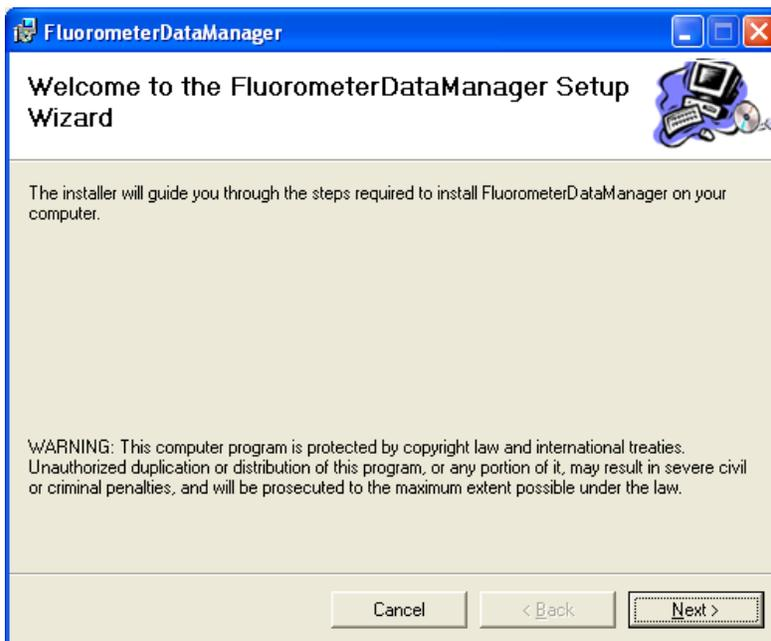

Figure 15. Install Handheld Fluorometer Data Manager
- c. Double click "Setup.exe" in the installation package and follow the instructions displayed during the installation to install "FluorometerDataManager.exe" on the host computer, as shown in Figure 15. By default the data manager program will be installed in the directory: C:\Program Files (x86)\Fluorometer\Data Manager - User\. A "Data Manager - User (Active)" shortcut will also be created on the computer Desktop.